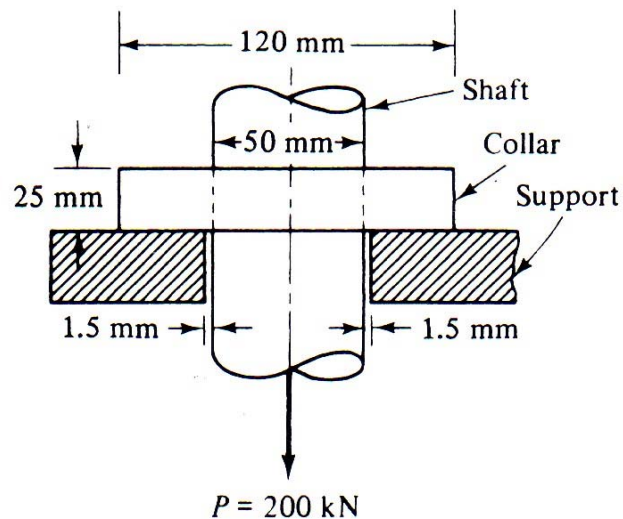

Figure Q5[a]
- [b] A composite bar made of aluminium and steel is held between the supports as shown in Figure Q5[b]. The bars are stress free at a temperature of 37°C .